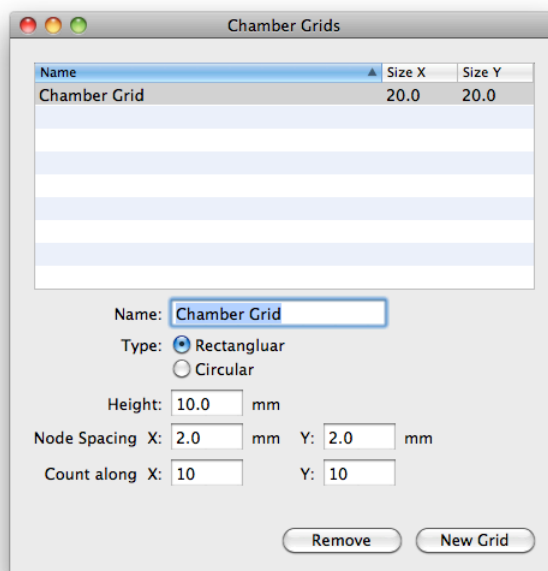

Fig. 12-4
- Select **Window->Chamber Grids** to open the grid manager screen (see Fig. 12-4).